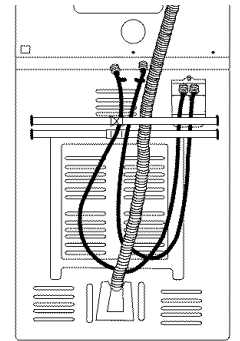

Figure 1
1. Carefully remove any packaging materials from the outside of the appliance. Set aside two corner posts for installation. **IMPORTANT:** Notice that the hoses are tied up with a shipping strap. (See figure 1.) **The strap should not be cut or removed until the machine is ready to be installed. FOR STACKED UNITS ONLY: After shipping restraints (upper straps and lower straps) have been removed, machine MUST be transported in the upright condition.**